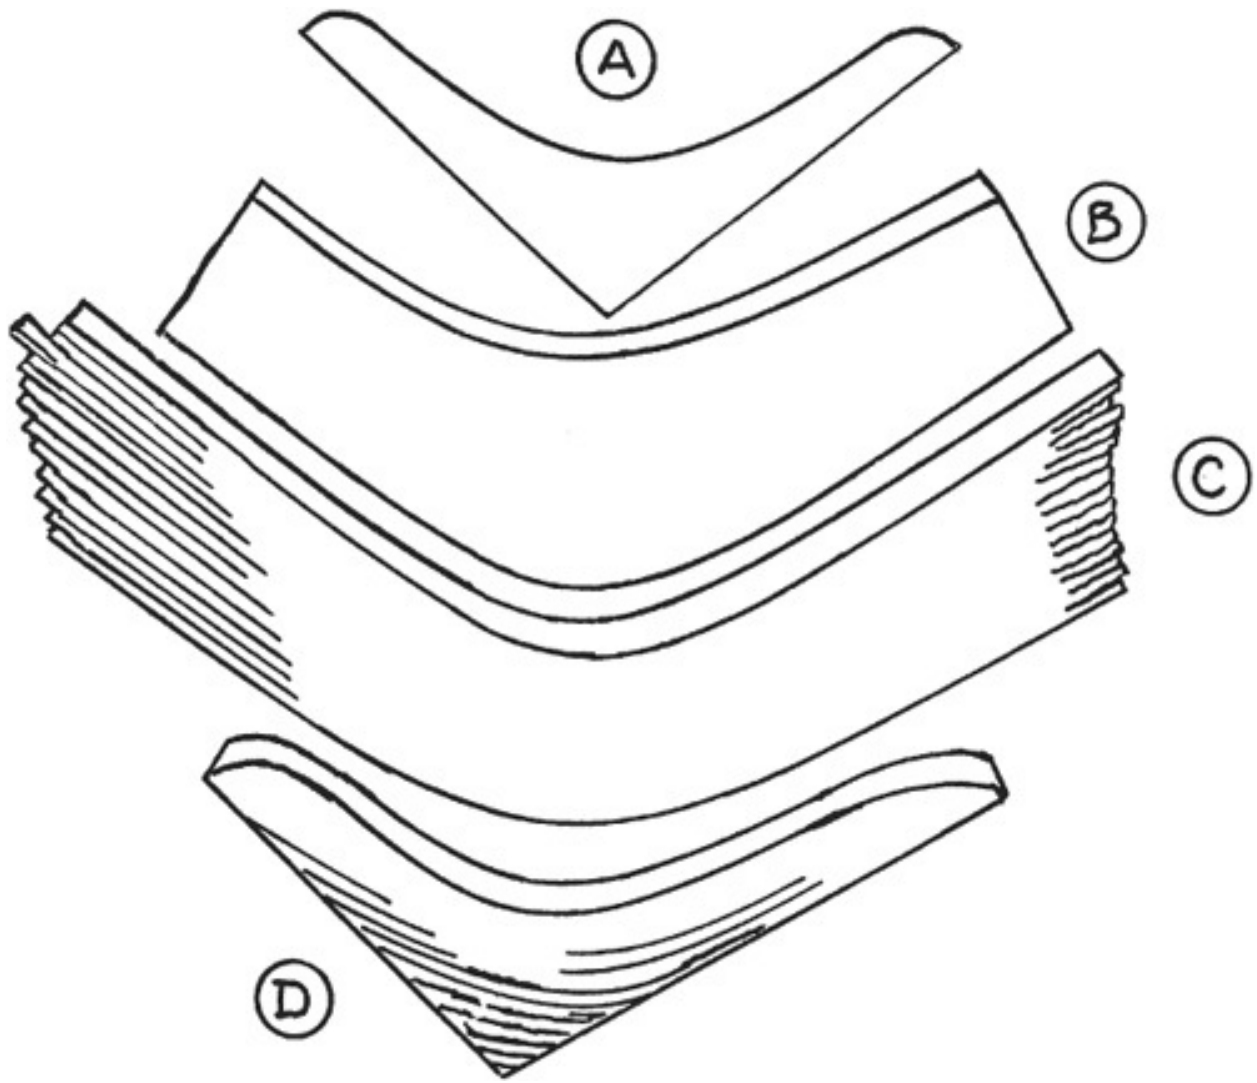

FIGURE 4-7. A laminated knee substituted for a natural crook. Pattern (A), form (B), glued-up strips of wood (C), and finished knee (D). (*Robert G. Leahy*)
Builder Robert G. Leahy of Easton, Maryland, sent me a snapshot showing the process he used when he made the transom knee for the 18'7" utility launch he built from the plans for my Barbara Anne design. The picture would not reproduce satisfactorily, so I laid tracing vellum over it and uncorked the ink bottle to draw Figure 4-7, in which A is his pattern for the knee, B is the shape over which he bent and glued the strips of wood (C), and D is the finished knee.